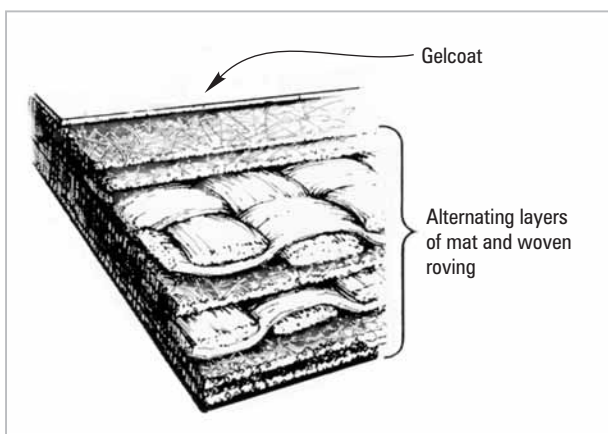

Figure 1-1 Typical solid (single skin) fiberglass laminate. Various reinforcing fabrics are bonded together with polyester resin.
Generally, production fiberglass boat hulls are built in a female mold. A release agent is first applied to the surface of the mold, over which the gelcoat material is applied. Gelcoat is usually a pigmented, unsaturated polyester resin and may be anywhere from 12 to 22 mils thick. It is designed to act as a moisture barrier for the underlying laminate, as well as to provide a smooth, glossy, cosmetic finish. Subsequent layers of fabric are saturated with resin and laid up over the gelcoat. There are as many lay-up schedules as there are boats. A typical hull section might consist of the layer of gelcoat, several alternating layers of mat and woven roving, and in many cases a core material such as end grain balsa or foam, followed by several more alternating layers of saturated mat and woven roving (*Figures 1-1 and 1-2*). Hull thickness may vary from boat to boat. Older boats were often laid up with a solid glass laminate thickness of 1½" (3.8 cm) to as much as 5" (12.7 cm) in the keel areas of the more heavily-built boats. Today, however, the trend is toward thinner, lighter laminates, making the structural integrity of each of the laminate components all the more critical.
- b. **Minor cracks** or scrapes that run through the gelcoat into the first chopped strand mat layers of the laminate (*Figure 1-1*) should be repaired with epoxy using the procedures described below (Section 2.1). Finish with the gelcoat repair technique described later in Section 2.2.1. If necessary, reinforce the laminate to reduce flexing as described in Section 3.5.